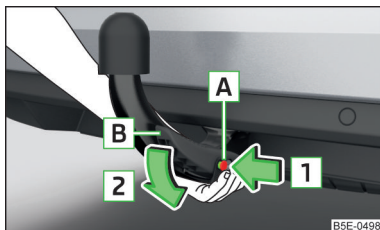

Fig. 306
- ▶ Grasp the ball rod from **below** » Fig. 306.